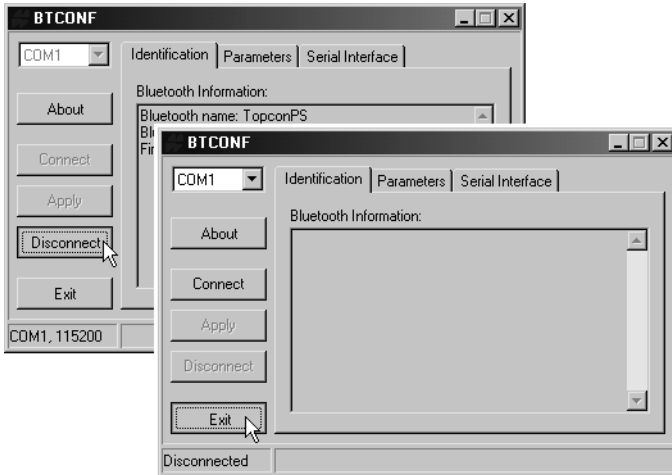

Figure 2-29. Click **Disconnect** then **Exit**
9. Click **Disconnect** then **Exit** (Figure 2-29) to quit BTCONF.